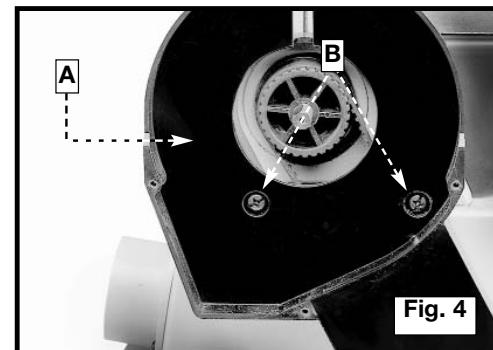

Fig. 4
Attach the belt and pulley guard (A) Fig. 4 to the machine base using the two M6x1x30mm cheese head screws (B).